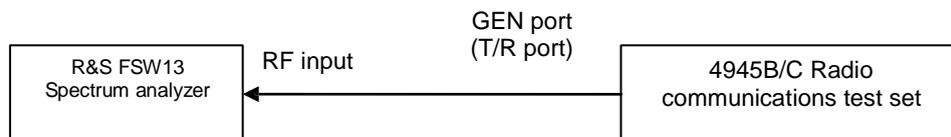

Fig. 6-8 Block diagram for RF signal generation power characteristics test
- 1) Test the RF signal generation power of the GEN port. As shown in Fig. 6-8, connect the GEN port of 4945B/C with the RF input port of the spectrum analyzer.
- 1) As shown in Fig. 6-8, connect the GEN port of 4945B/C to the RF input port of the spectrum analyzer; set 4945B/C to the RF TX mode with the output frequency of 1 MHz and the amplitude of 0 dBm; set the start frequency of the spectrum analyzer to 1 MHz, and the reference level to 10 dBm;
1) As shown in Fig. 6-8, connect the RF input of the spectrum analyzer to the GEN port of 4945B/C, set 4945B/C to the RF TX mode with the output frequency of 1.05 GHz, the amplitude of -10 dBm, the modulation format of FM, the modulation rate of 20 Hz and the frequency deviation of 5 kHz;
1) As shown in Fig. 6-8, connect the RF input of the spectrum analyzer to the GEN port of 4945B/C, set 4945B/C to the RF signal TX mode with the output frequency of 1.05 GHz, the amplitude of -10 dBm, the modulation format of AM, the modulation rate of 20 Hz and the frequency modulation depth of 30%;
- 1) As shown in Fig. 6-8, connect the RF input of the spectrum analyzer to the GEN port of 4945B/C, set 4945B/C to the RF TX mode with the output frequency of 1.05 GHz and the amplitude of -10 dBm;